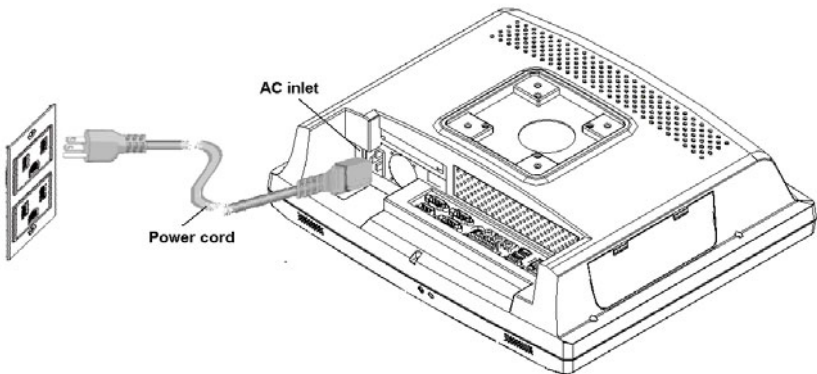

Figure 2.5: Connecting the Power Cord
1. Connect the female end of the power cord to the AC inlet of the panel PC. (See Figure 2.5)